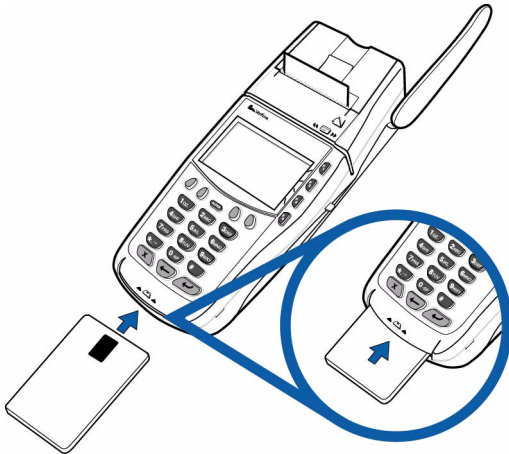

Figure 18 Using the Primary Smart Card Reader
- 1 Position the smart card with the contacts up and insert it into the smart card reader slot in a smooth, continuous motion until it seats firmly (Figure 18).